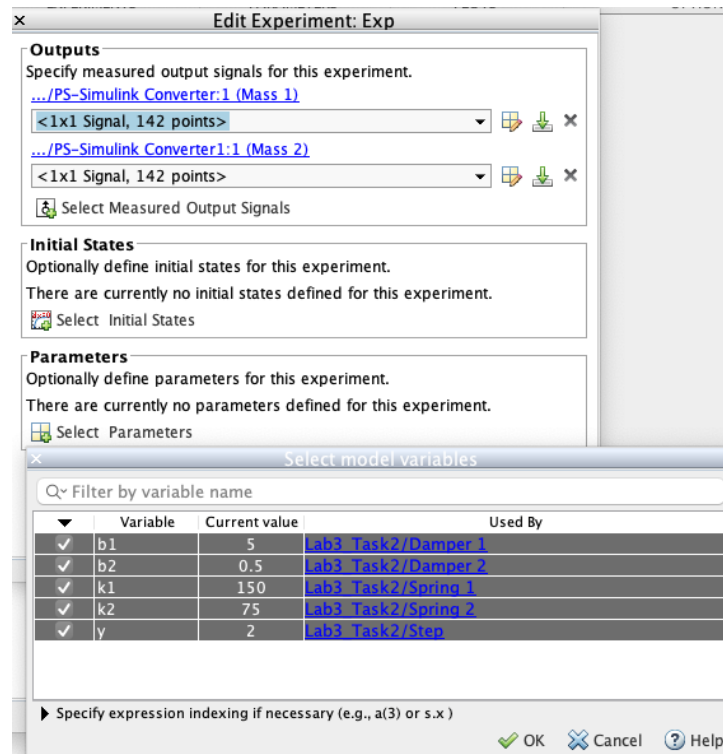

Figure 9: Parameter Selection
11. Next, select all the parameters we defined within the model. That is variables b1, b2, k1, k2, and y. These are "continuous" variables. This is shown in figure 9.